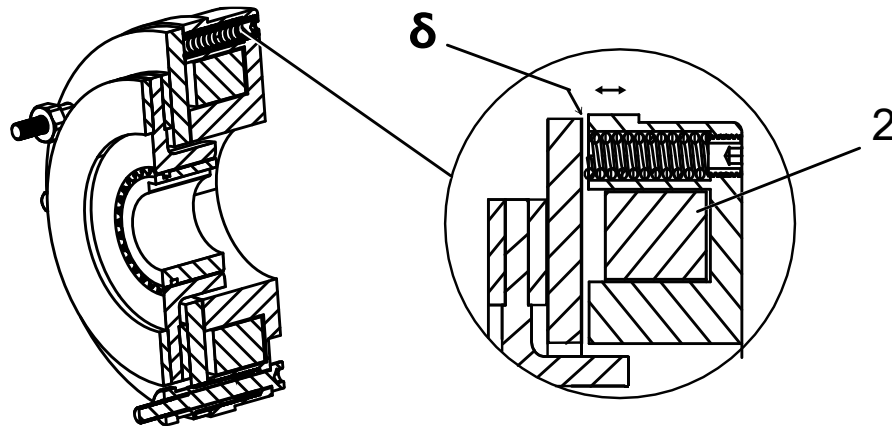

Fig. 6-17 Adjust the air gap
- Adjust the air gap: the standard air gap value $\delta=0.6\text{mm}$ for the electromagnetic (2) brake of three-phase asynchronous motor. See Fig. 6-17.